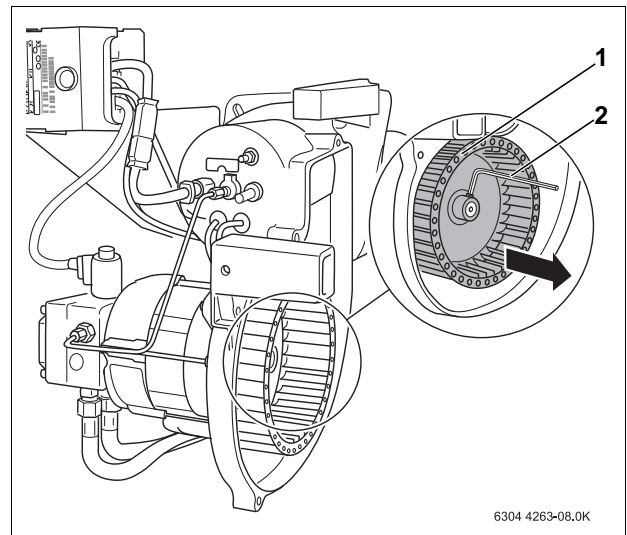

Fig. 20 Check fan, clean if necessary
- Undo fan impeller (Fig. 20, **Item 1**) with an Allen key (Fig. 20, **Item 2**) and pull it off the shaft.
- Refit fan impeller (Fig. 20, **Item 1**).